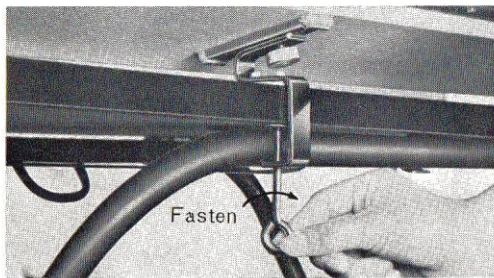

Fig. 6
Fasten the knitter to the table by tightening table clamp screws. It is essential that boss (E) fits snugly into aperture (F). (See Fig.6)